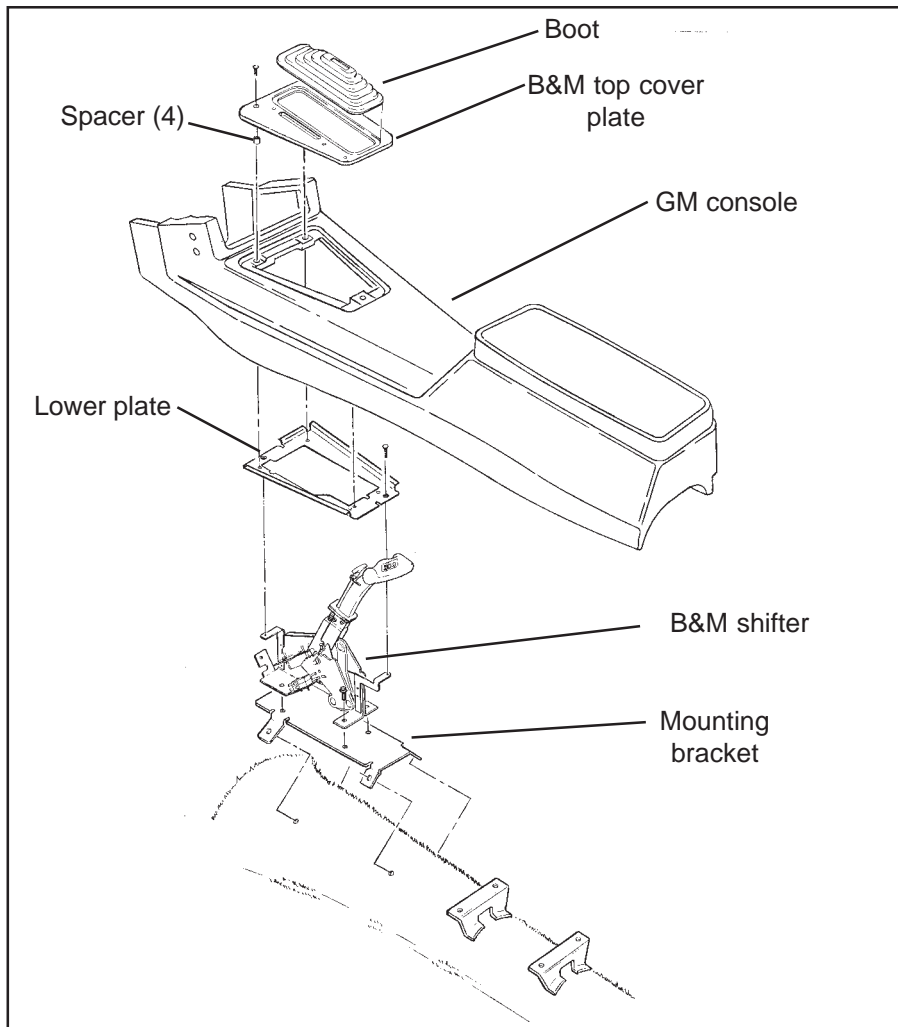

Figure 1
STEP 1. Remove the console from the car (**See Figure 1**). Remove the two screws inside the storage box, two under the storage box and two in the dash board. Remove the four screws on the shifter cover plate.
STEP 6. Install the **B&M** mounting bracket to the floor using the four stock screws (**See Figure 1**). Install the shifter guiding the cable through the hole and the rubber seal in the floor. Bolt the shifter in place with 1/4-20 screws.
STEP 14. Install the lower plate onto the top of the shifter with two #10 flat head screws (**See Figure 1**). Feed the cover plate and the indicator cable through the hole in the lower plate.